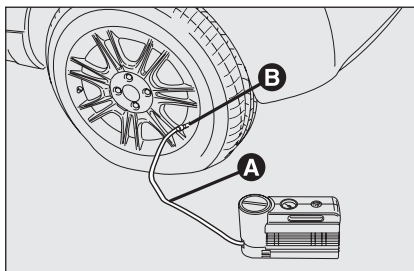

fig. 4
- ☐ Pull up the handbrake. Loosen tyre inflation valve cap, take out the filler hose **A**-fig. 4 and screw the ring nut **B** on the tyre valve;